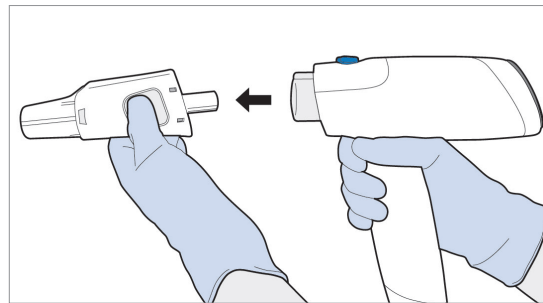

**Figure 47** Remove Handset
**23. Withdraw the Handset from the injection site after the treatment is complete (see Figure 47).**